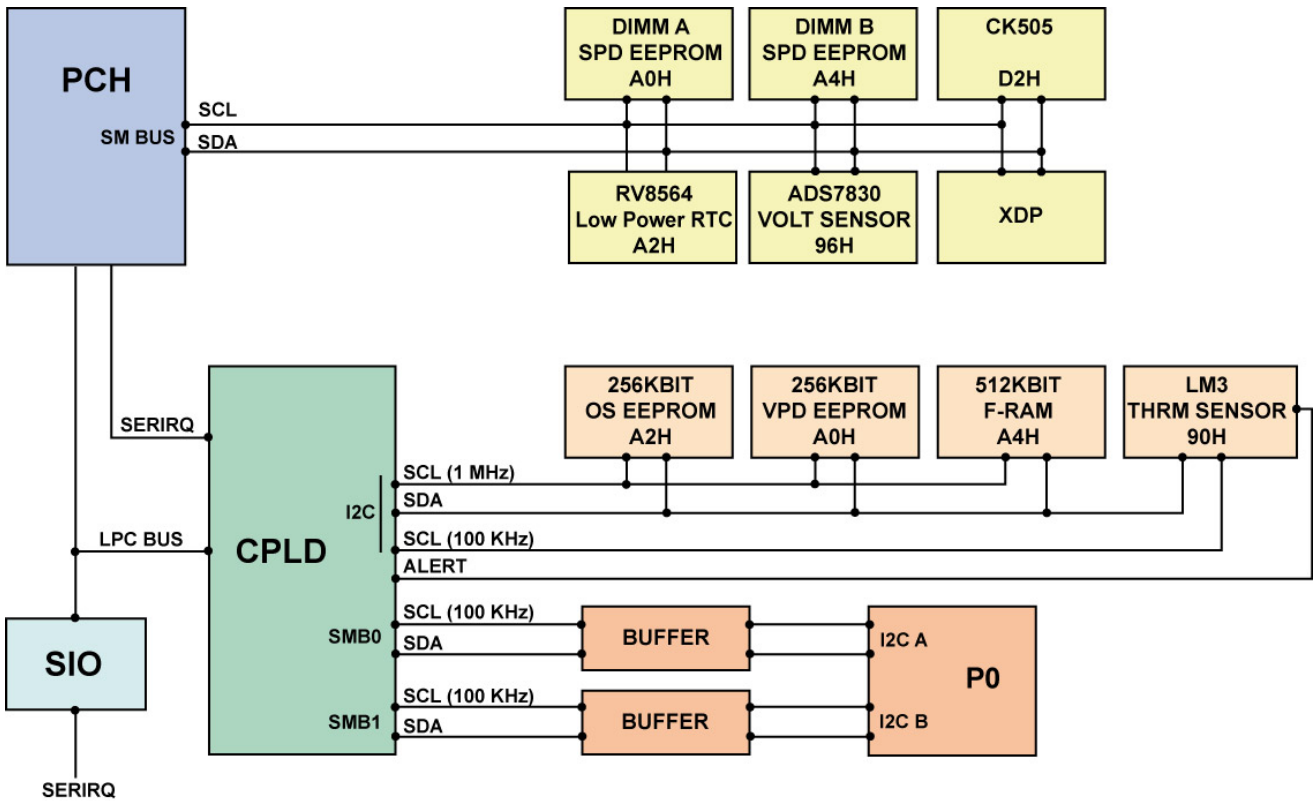

Figure 16: I2C Diagram
- The remaining i2C busses are handled by the CPLD device according Figure 16 “I2C Diagram”.